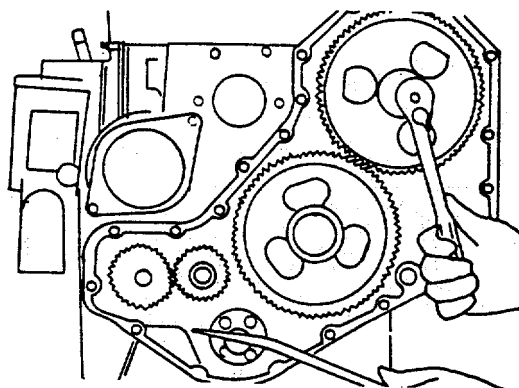

FIGURE 2-29. Fuel Pump Drive Gear Mounting Nut and Lockwasher Removal
- e. Drive gear must be removed. Remove the mounting nut and lockwasher from the pump drive shaft. (FIGURE 2-29)
- f. Install the pump drive and washer shaft nut. (FIGURE 2-29).